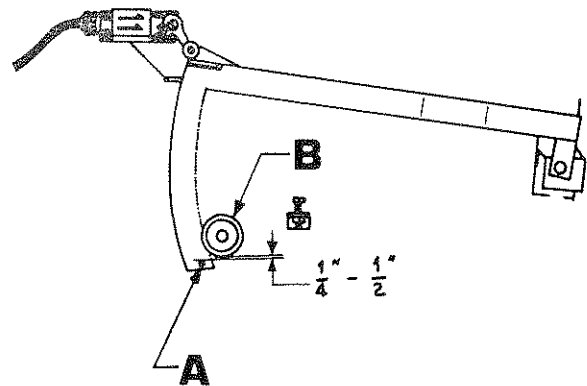

Fig. 48
2. Raise the meter bar until cam contacts switch arm roller and the switch clicks to operate, see Fig. 48.